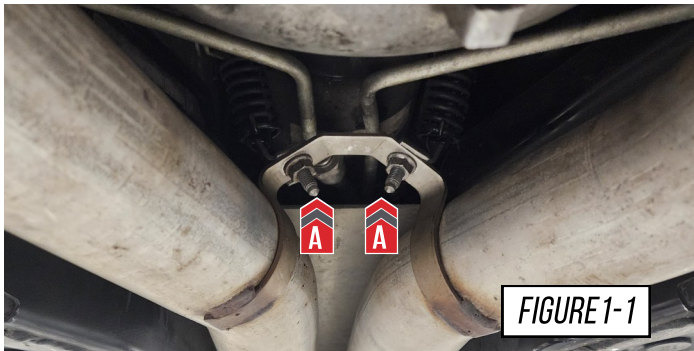

FIGURE 1-1
Remove the hardware shown at (A) that holds the spring hangers to the bracket, shown in **Figure 1-1**.